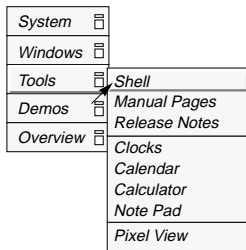

Figure 2-3
1. Open a shell window (Figure 2-3).